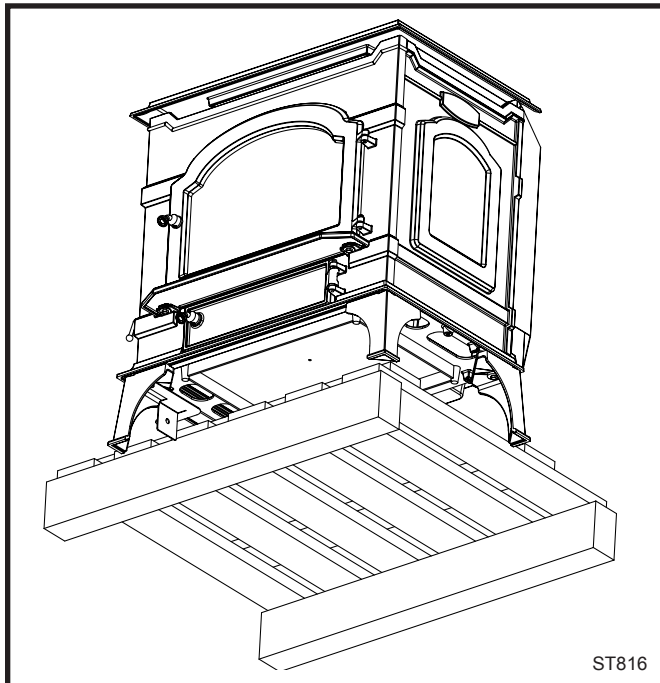

Fig. 21 Reposition stove so one rear leg can be attached.
4. In the hardware bag, locate the four legs, the door handle insert holder, (on this leg only, the door handle insert holder is used along with a washer), (4) 3/8-16 x 1" leg bolts and four (4) washers.
7. Reposition the stove so the first rear leg can be attached. Attach the leg using the procedure described in Step 6. (Fig. 21)
9. Remove the (4) 1/4-20 x 3/8" hex head bolts from the mounting bosses and attach the bottom heat shield using the same bolts.